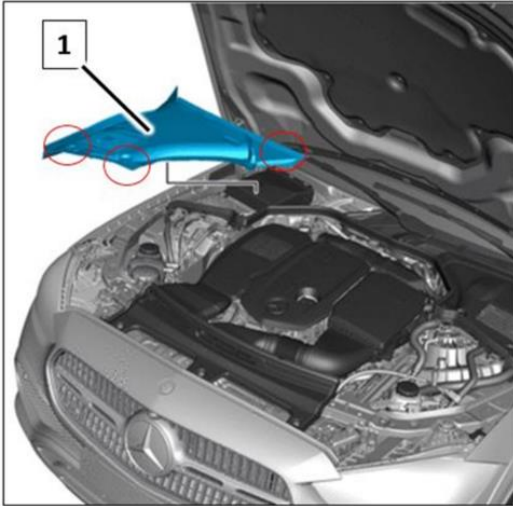

Figure 1, left-hand drive vehicle
2. Remove cover (1, **Figure 1**).